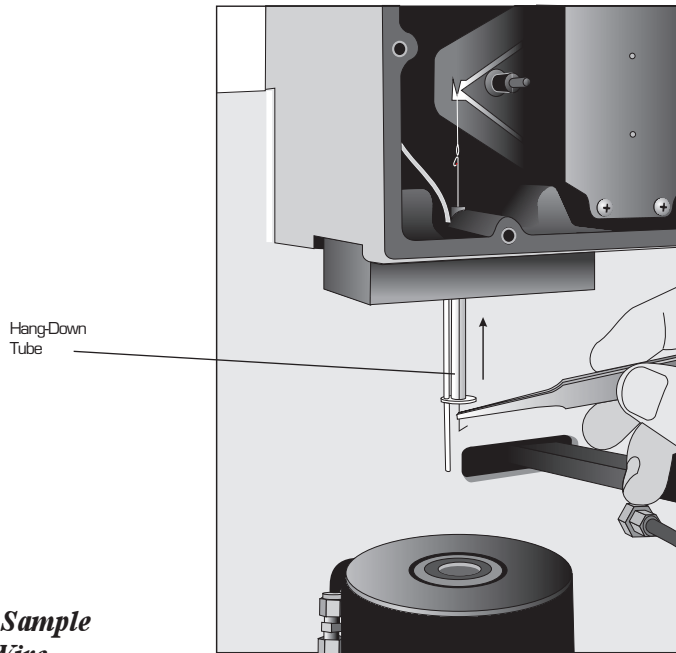

Figure 2.14
5. Carefully insert the bottom of the hang-down wire into the top of the furnace far enough so that you can insert the top of the wire into the hang-down tube without bending the wire (Figure 2.14 on the next page).